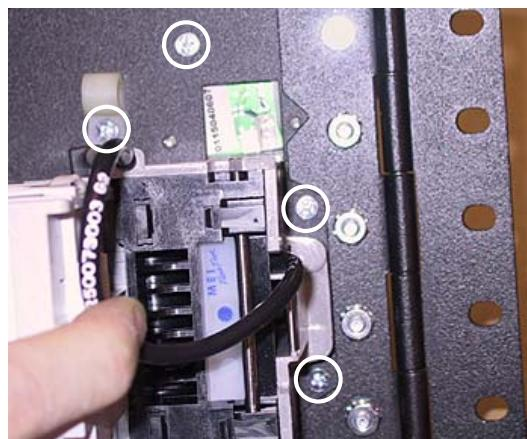

FIGURE 17 - SCREWS FASTENING BILL ACCEPTOR BEZEL TO MOUNTING PLATE
9. Remove the 4 screws on the reverse side of the mounting plate fastening the bill acceptor bezel to the plate (see Figure 17). One screw also fastens the cable clamp.
10. Remove the 4 screws fastening the bill acceptor to the mounting plate (see Figure 17) and remove the bill acceptor.
3. Reattach the bill acceptor bezel to the mounting plate by replacing the 4 screws on the reverse side of the plate (see Figure 17). Also replace the cable clamp.